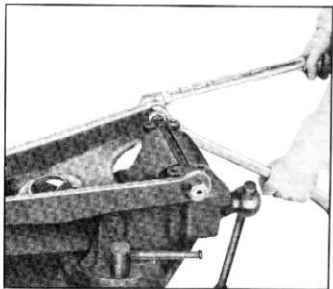

Fig. 19—Locking Control Arm in Position
6. Tighten lock nut securely; then, holding lock nut, tighten bushing to 150-200 ft. lbs. torque using J-1264 Torque Wrench (fig. 19).